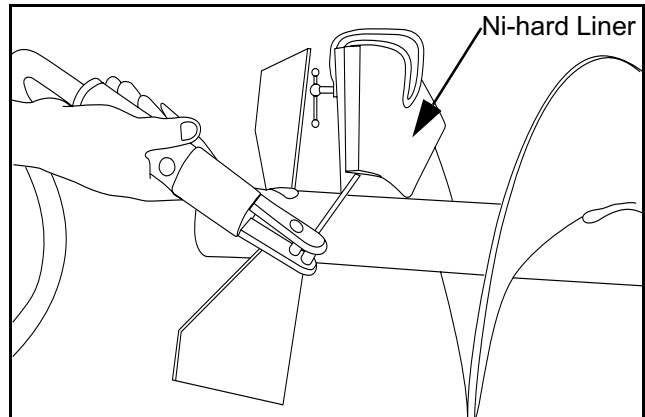

Figure 6 - 30 Installing liners
- 3) Use several C-clamps and attach the pieces of liner to the auger face starting at the drive chain end as shown (Figure 6 - 30). By starting at this end, the main wear surface of the section will be covered and any small area not covered will be at the discharge end. Adjust liner pieces to extend 1/8" above the edges of the auger flight as shown (Figure 6 - 31). Be sure the first piece applied is accurately aligned so the remaining liners will fit properly along the flight.